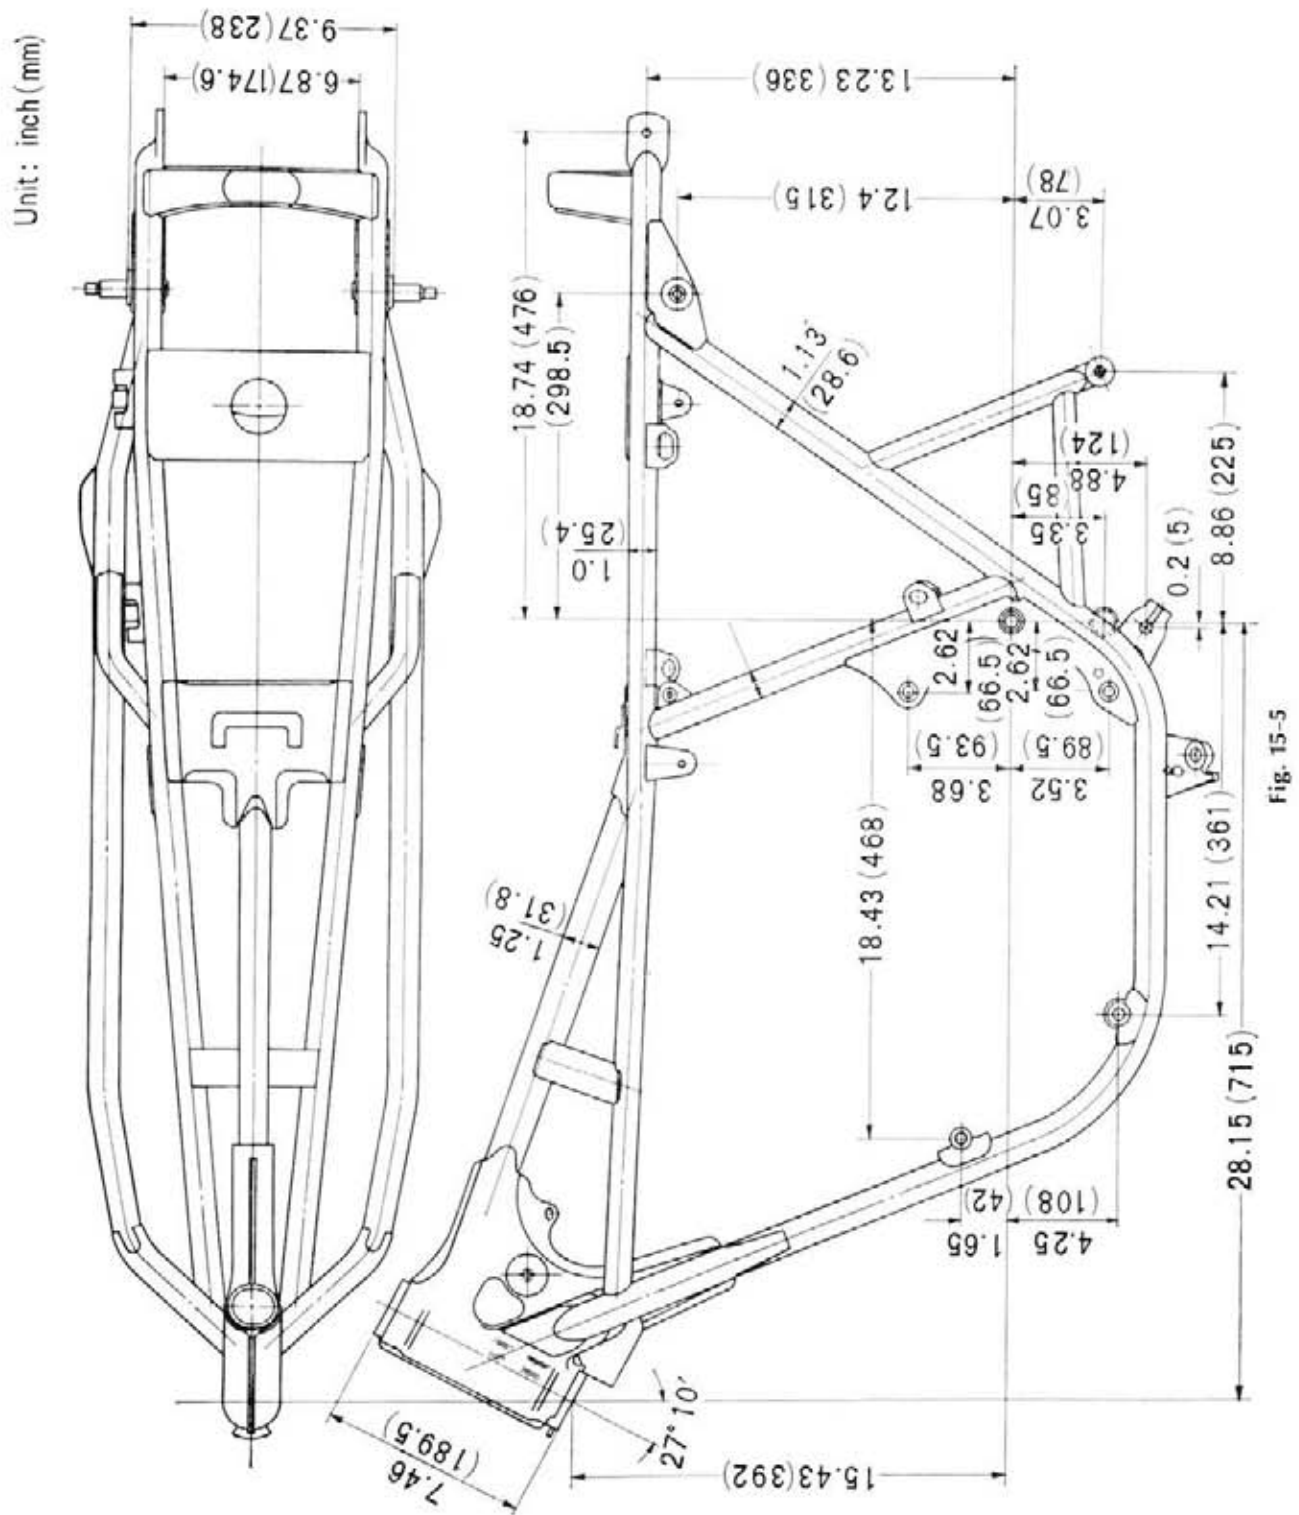

Fig. 15-5
1. Check for bend and damage to the frame and repair using a press. (Fig. 15-5 shows the dimensions of the frame body.)